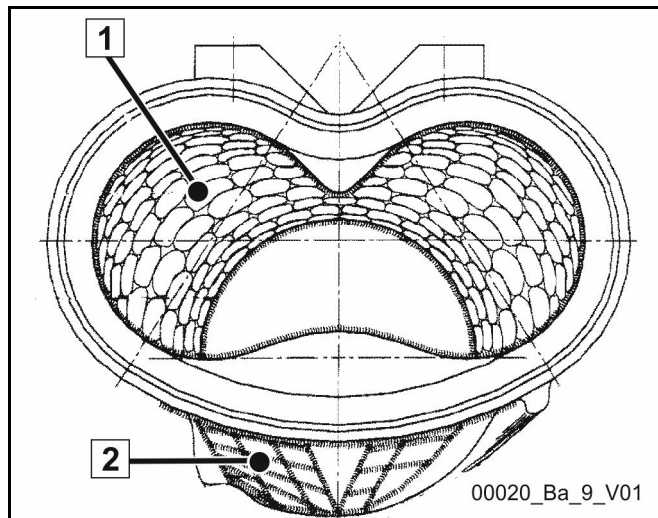

Fig. 334 Armoured swivel head (rock)
- armoured swivel head, see **(Fig. 334)**,
Caption (Fig. 334)